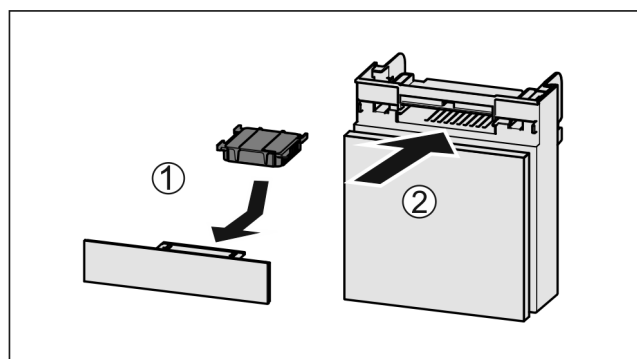

Fig. 134
- ▶ Insert the carbon filter as shown in the diagram *Fig. 134 (1)*.
- ▶ Push the compartment in *Fig. 134 (2)*.